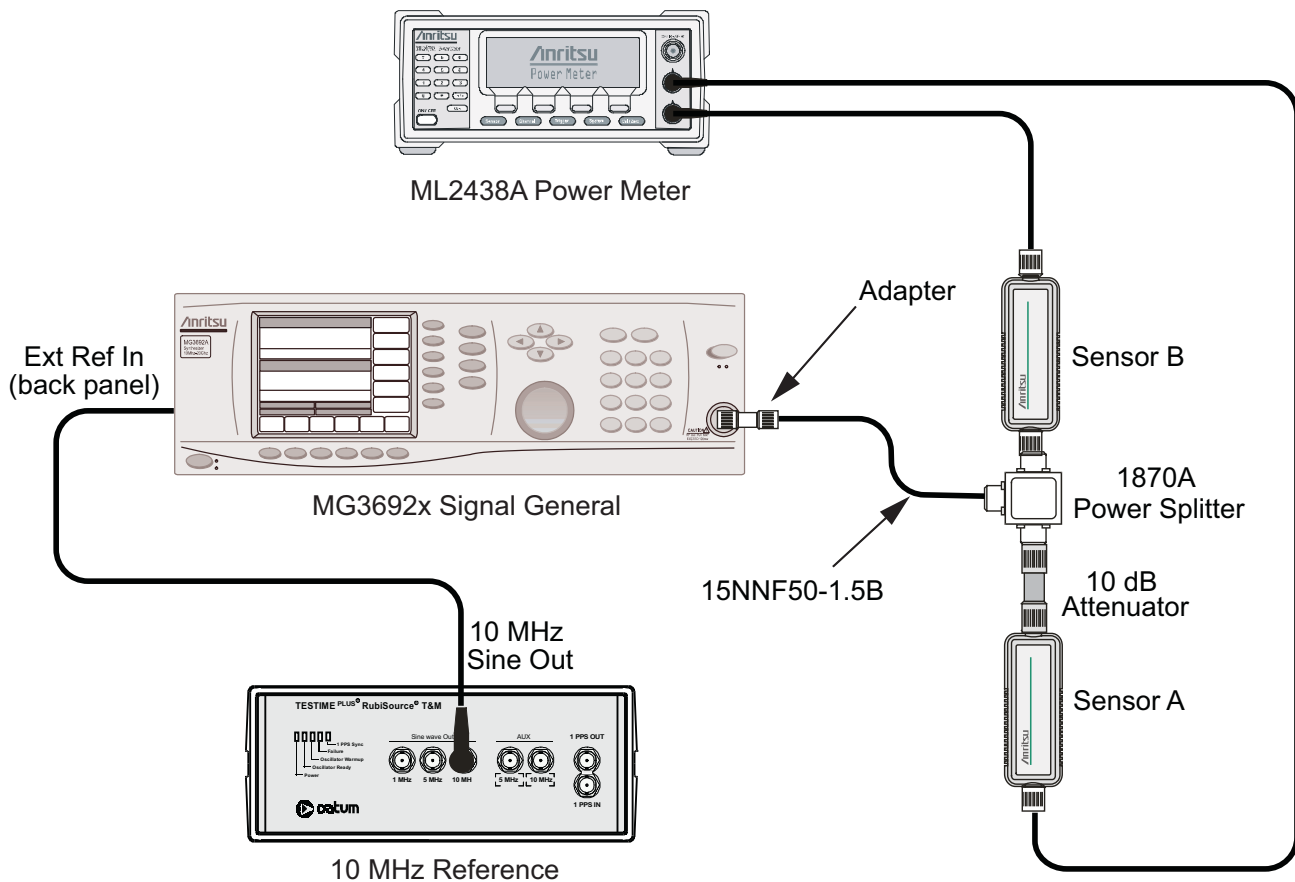

Figure 2-2. 50 MHz Amplitude Accuracy Verification for Models with N Connectors
2. Connect the equipment as shown in Figure 2-2 on page 2-12.
1. Connect the equipment as shown in Figure 2-2 on page 2-12.